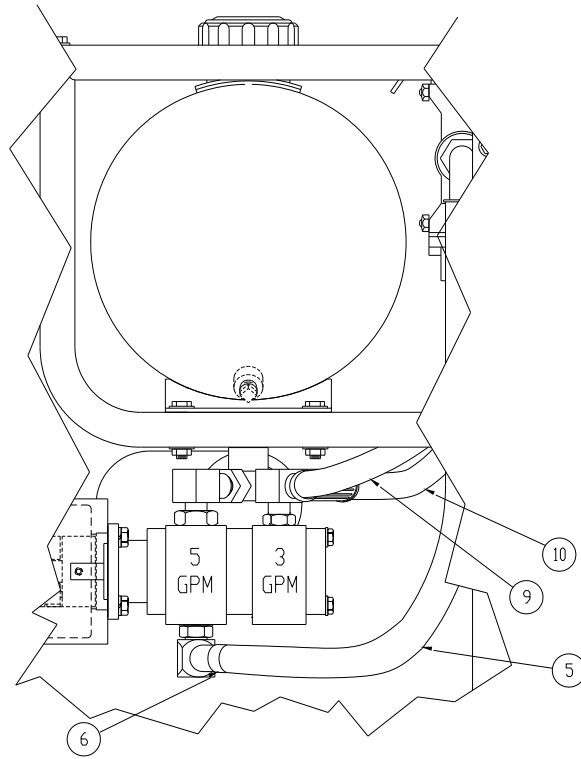
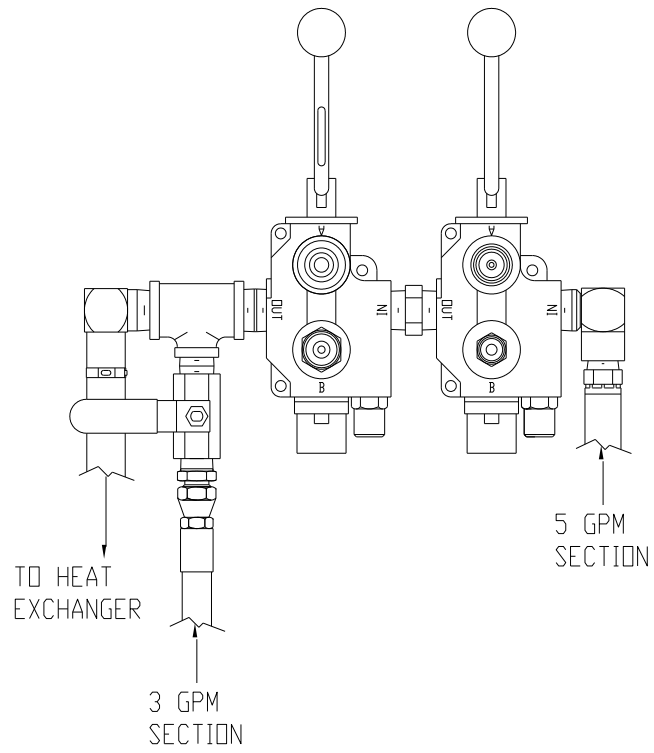

Figure 5
Figure 6
10. **Refer to Figure 5, 6** – Connect the 9 3/4” high pressure hose (B/N 9) to the 3 gpm section of the pump and tighten, then tighten the jam nut. Connect the other end of the hose to the ball valve on the hydrapak control valve as shown in Figure 6. Ensure the hoses are not kinked or rubbing against other components.
11. **Refer to Figure 5, 6** – Connect the 16” high pressure hose (B/N 10) to the 5 gpm section of the pump and tighten, then tighten the jam nut. Connect the other end of the hose to the fitting on the hydrapak control valve as shown in Figure 6. Ensure the hoses are not kinked or rubbing against other components.